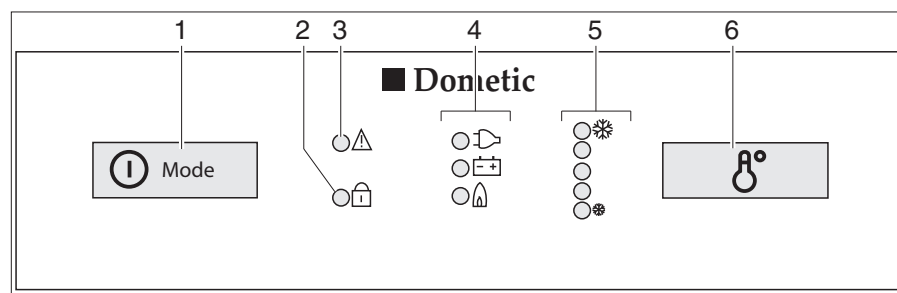

Fig. 352 Operating controls for the refrigerator (Dometic 8 series with MES)
- Press the on/off switch/energy selector switch (Fig. 352,1) down for 2 seconds in order to switch on the appliance. The LED of the operating mode chosen most recently lights up.
- If appropriate press the on/off switch/energy selector switch (Fig. 352,1) until the gas operating indicator "🔥" lights up. Gas supply is open. Ignition will take place automatically. A ticking sound can be heard until ignition has been completed successfully.
- Use switch (Fig. 352,6) to adjust refrigerating temperature.
- If appropriate press the on/off switch/energy selector switch (Fig. 352,1) several times until the operating indicator 240 V "" lights up.
- If appropriate press the on/off switch/energy selector switch (Fig. 352,1) several times until the operating indicator 12 V "" lights up.